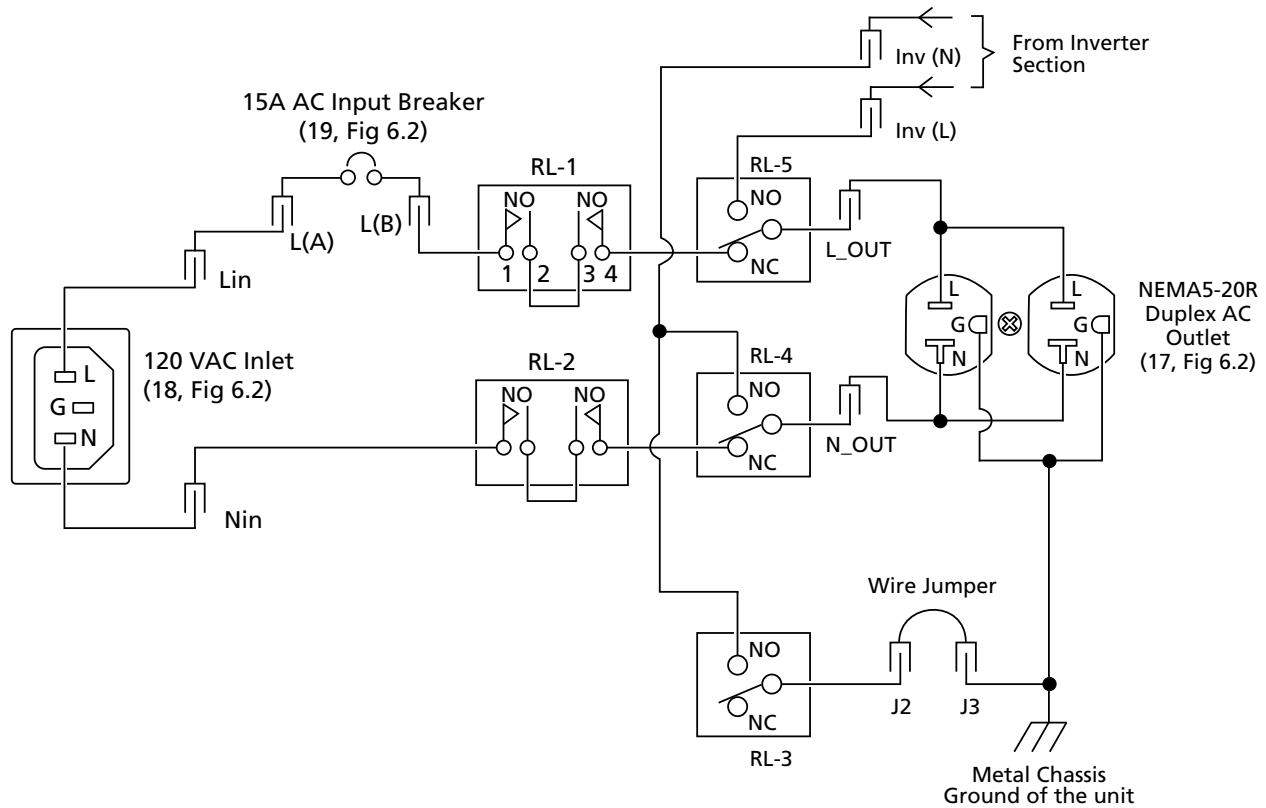

Fig. 5.1: Connection Diagram of Transfer & N-G Bond Switching Relays
When the Inverter Section is turned OFF but AC GRID input is still available, AC GRID input voltage will be bypassed to the load through the closed contacts of the energized Relays RL-1 and RL-2 and the Normally Closed (NC) contacts of the de-energized Relays RL-4 and RL-5 (see Fig. 5.1). Relays RL-1 and RL-2 are energized by +12VDC generated by a small Switch Mode Power Supply (SMPS) that is powered from the AC GRID input and NOT from the batteries. Hence, in this condition, there will be no current draw from the batteries.
In this unit, set of Transfer Relays are used to (i) switch the AC load between the AC GRID and the Inverter (Section 5.4.1) and (ii) to switch Neutral to Chassis Ground bonding i.e. bond the Output Neutral to the Chassis Ground in Inverter Mode and unbond when in Bypass Mode (Section 5.4.3). Connection diagram of these relays is shown in Fig 5.1 below:
#### LEGEND FOR FIG 5.1
LEGEND FOR FIG 5.1 (Continued)
Refer to Fig 5.1.
Refer to connections of Relay RL-3 in Fig 5.1.
**Permanent isolation of Output Neutral from metal Chassis Ground:** In certain applications, it may be necessary to isolate the Output Neutral from the metal chassis ground permanently. For this requirement, remove the internal Wire Jumper connecting Terminals J2 and J3 (Fig 5.1) [will require removal of top cover of the unit to access this Wire Jumper].